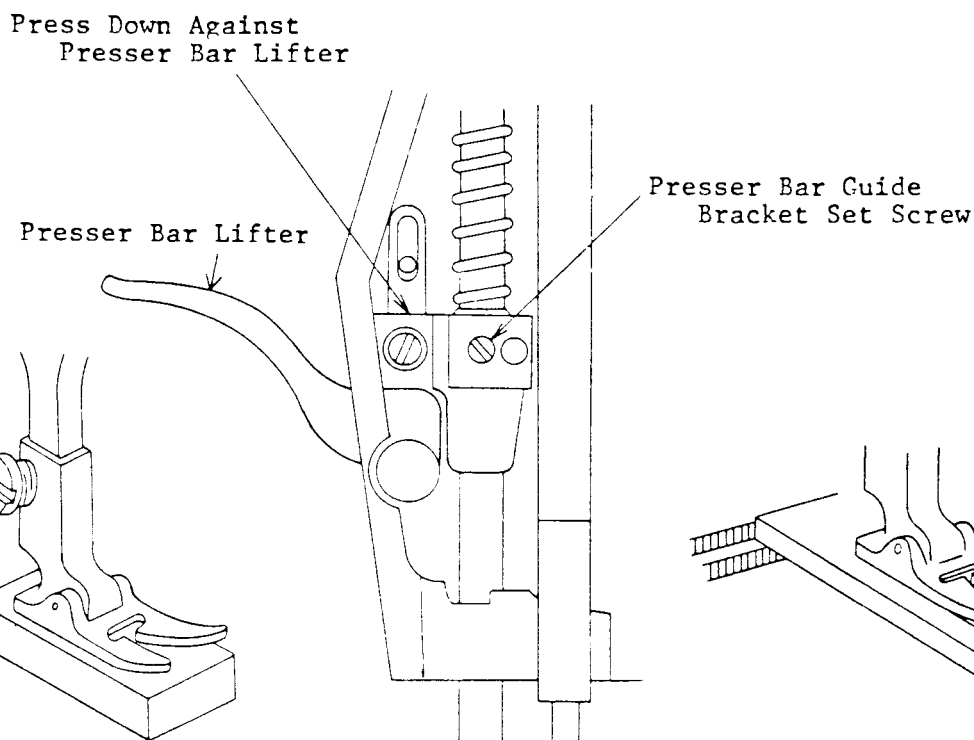

Fig. 23
3. Raise presser bar lifter and loosen presser bar guide bracket set screw. (Fig. 23)
5. Make sure the presser bar guide bracket is firmly in contact with presser bar lifter, then lightly tighten guide bracket set screw. (Fig. 23)